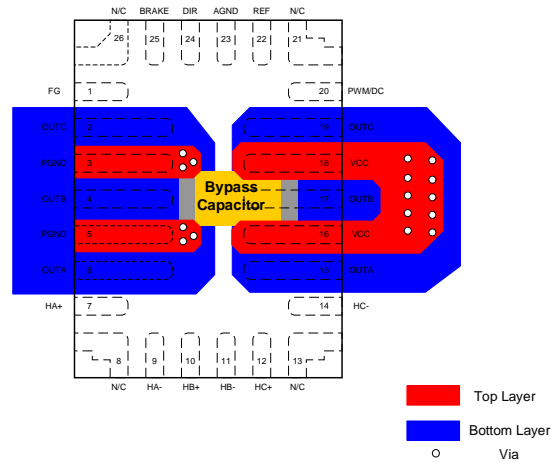
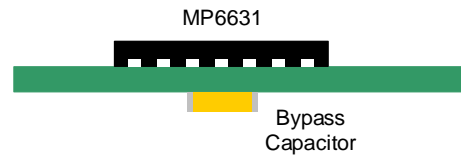

Figure 12: Recommended PCB Layout (Top View)
Figure 13: Recommended PCB Layout (Side View)
Efficient PCB layout is critical for stable operation. For the best results, refer to Figure 12 and Figure 13, and follow the guidelines below:
2. Figure 12 shows the recommended PCB layout when the MP6631 is placed on the top layer and the bypass capacitor is placed on the bottom layer.
3. Figure 13 shows the side view of the MP6631's recommended PCB layout.